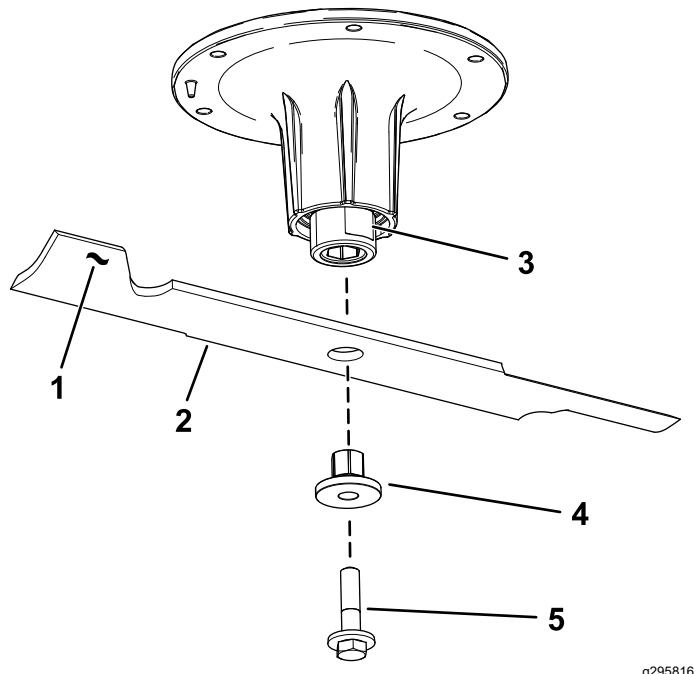

Figure 96
2. Remove the blade bolt, bushing, and blade from the spindle shaft (Figure 96).